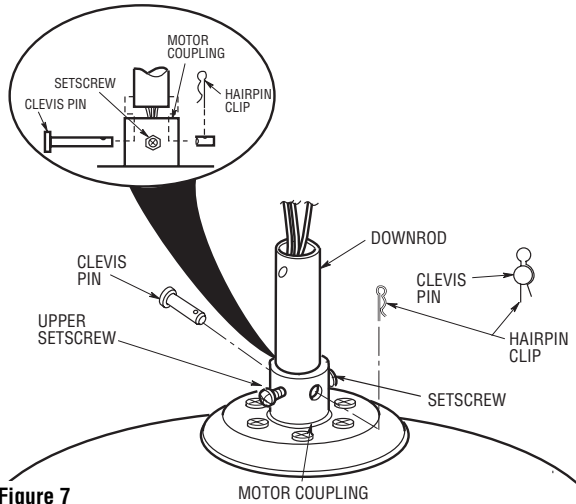

Figure 7
- 9. Separate, untwist and unkink the three 80" motor leads. Route the motor lead wires through the downrod. Remove the upper setscrew from the motor coupling. Align the clevis pin holes in the downrod with the holes in the motor coupling. Install the clevis pin and secure with the hairpin clip (Figure 7). The clevis pin must go through the holes in the motor coupling and the holes in the downrod. Be sure to push the straight leg of the hairpin clip through the hole near the end of the clevis pin until the curved portion of the hairpin clip snaps around the clevis pin. The hairpin clip must be properly installed to prevent the clevis pin from working loose. Pull on the downrod to make sure the clevis pin is properly installed. Reinstall the upper setscrew in the motor coupling. Check that the lower setscrew is tightened securely (Figure 7).